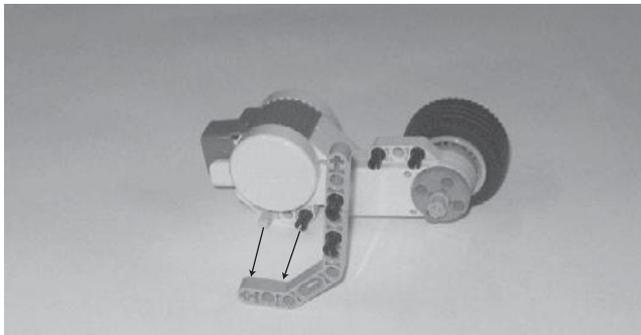

Figure 9.13
Step 4—Connect two connector pegs with friction to a 3×7 double broken angle beam, as shown in Figure 9.13, and then connect the double broken angle beam to the servo motor, as also shown in Figure 9.13.